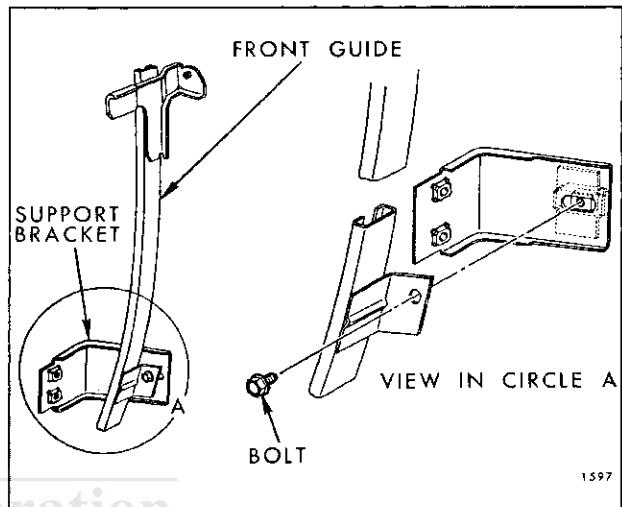

Fig. 6-99—Front Guide to Support Bracket Attachment —
- a. Door window front guide to support assembly attaching bolt (Fig. 6-99). Access to this bolt can be gained through large access hole.